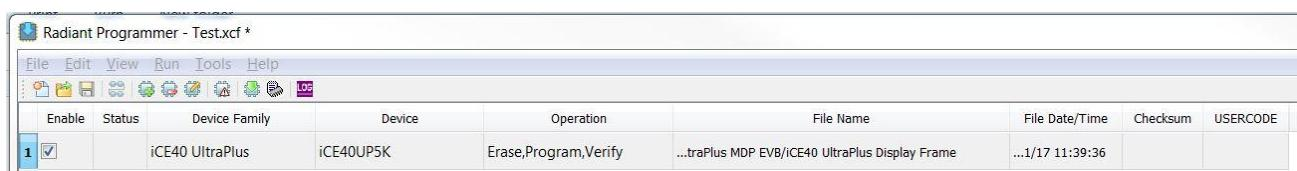

Figure 4.2. Radiant Programmer Main Interface
6. Click **OK**. This opens the Radiant Programmer main interface as shown in Figure 4.2.